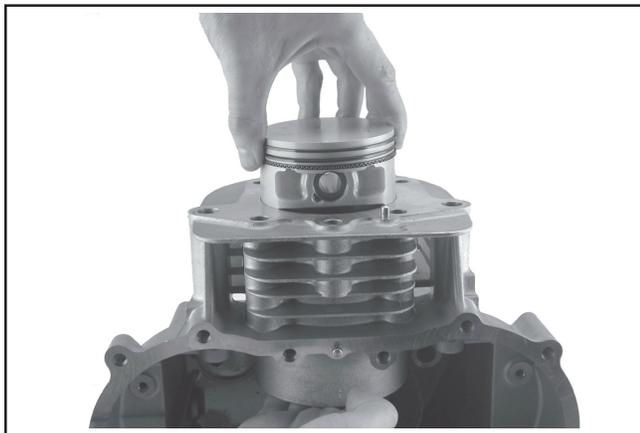

Figure 8-45. Removing Piston and Connecting Rod.
3. Carefully push the connecting rod and the piston away from the crankshaft and out of the cylinder bore. See Figure 8-45.